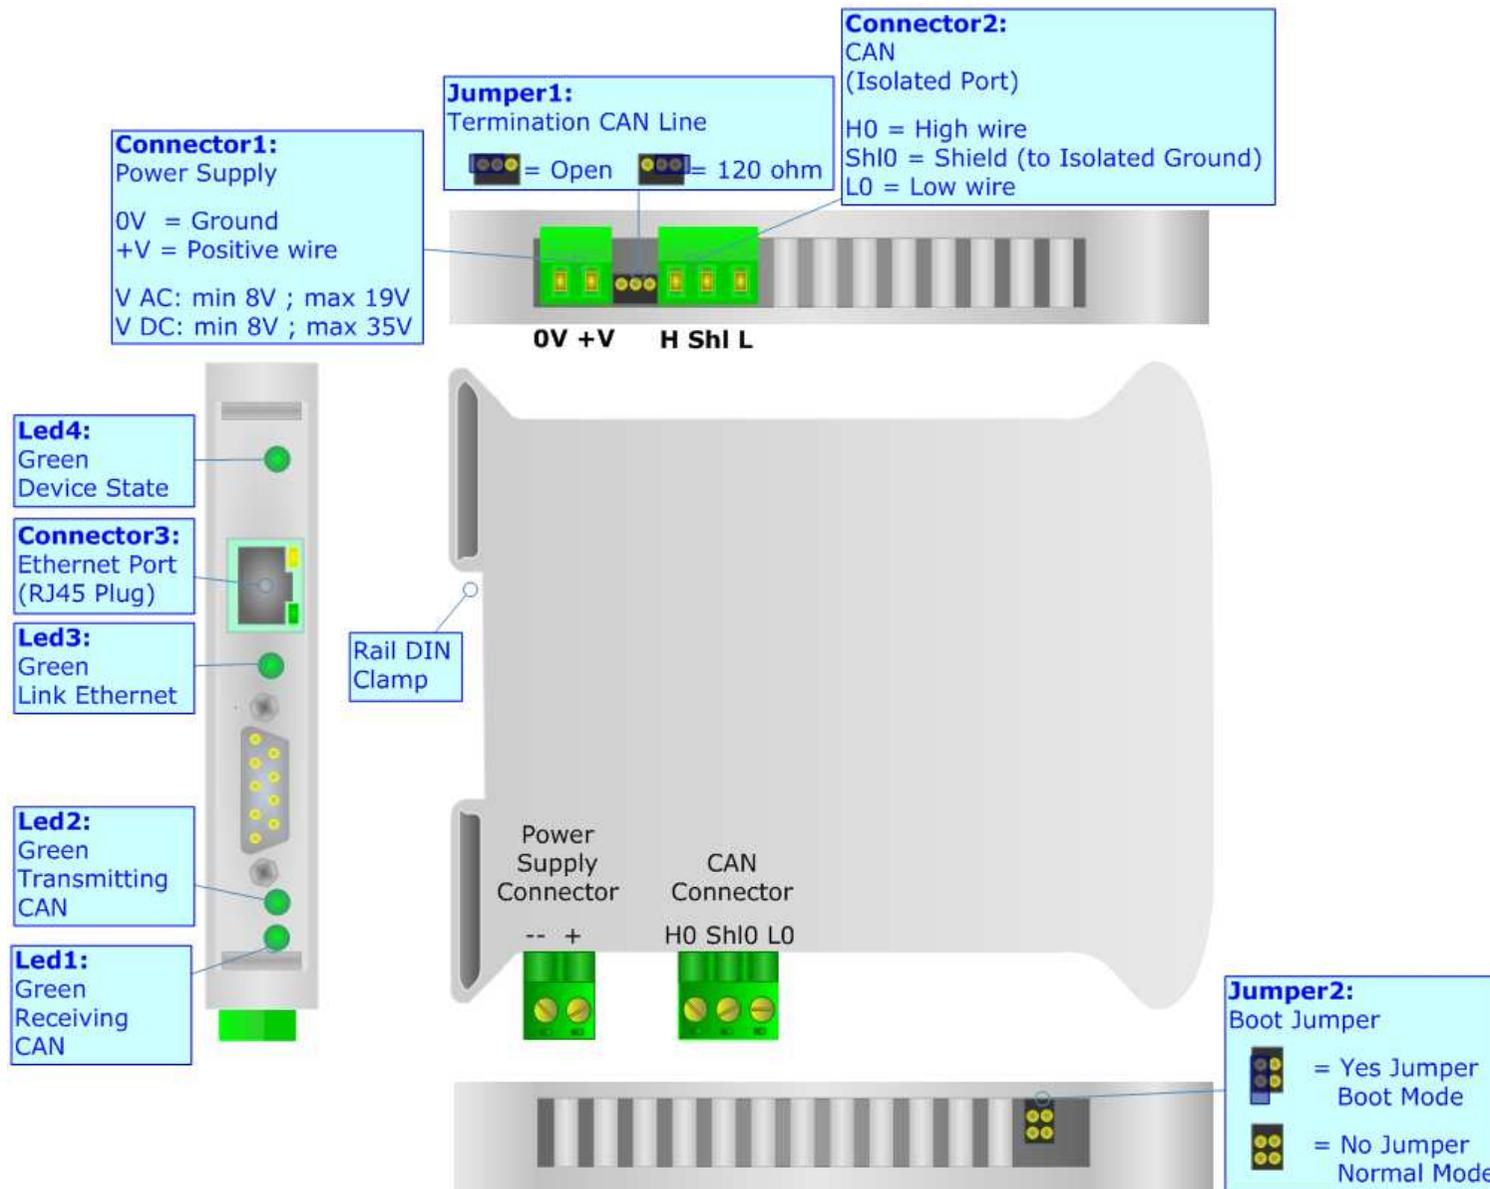

Figure 17: Connection scheme for HD67316-E-A1
- Insert the Boot Jumper (For more info see Fig. 17);